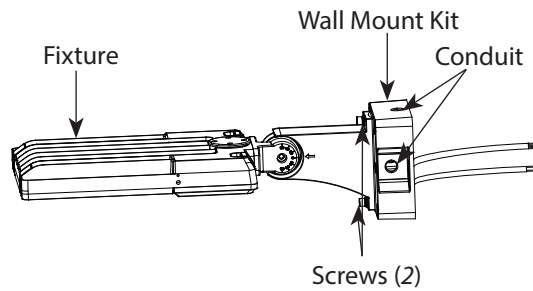

Figure 3
Step 4: Secure wall mount kit to the fixture with 2 screws which are provided. (Figure 3)
Step 7: For Conduit entry, remove conduit cap as shown in Figure 3, feed supply wires through conduit opening. Wire the fixture leads to supply wires using UL Listed wire connectors. Push all wire in the wall mount kit and follow mounting instructions above.